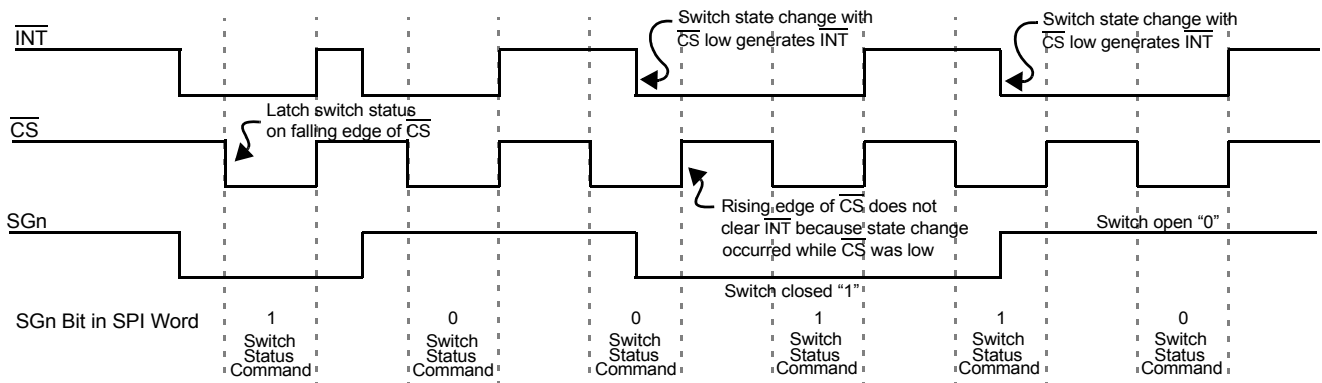

Figure 6. Normal Mode Interrupt Operation
2. $\overline{INT}$ pin is reset to logic [1], except when additional switch changes occur during $\overline{CS}$ low. (See Figure 6.)
Figure 6 is a graphical description of the device operation in Normal mode. Switch states are latched into the input register on the falling edge of CS. The INT to the MCU is cleared on the rising edge of CS. However, INT will not clear on rising edge of CS if a switch has closed during SPI communication (CS low). This prevents switch states from being missed by the MCU.